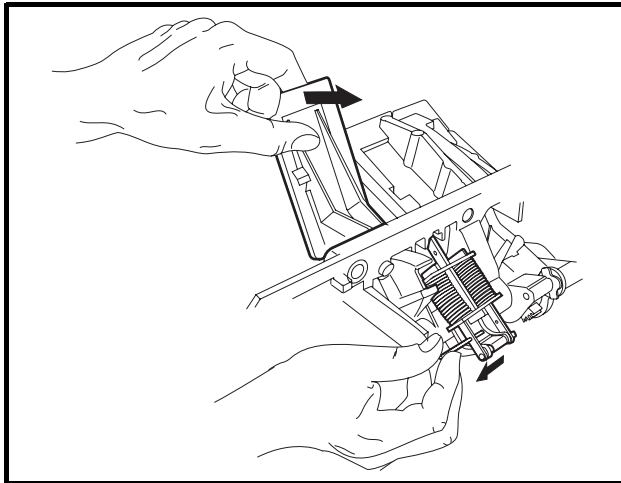

Figure 5-7 Accelerator Spring Pin Removal
4. Push accelerator pedal forward to compress the springs in the assembly. While the springs are compressed, pull pin from both T-shaped bars, then release the pedal (**Figure 5-7, Page 5-6**).